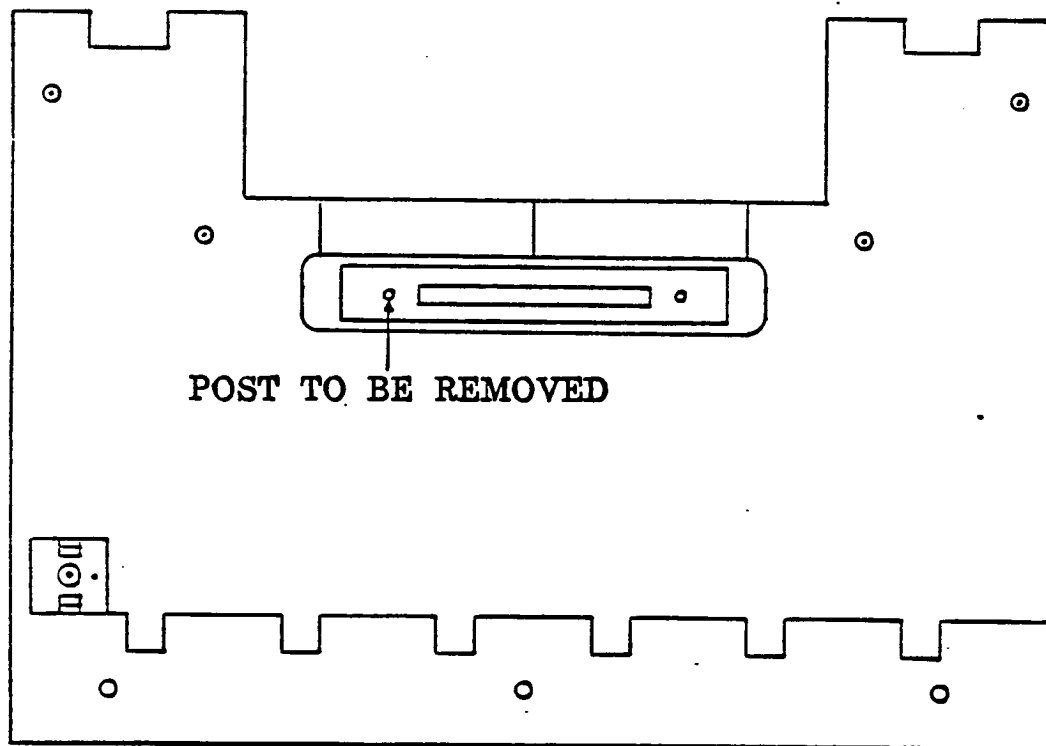

Figure 5. Top Cover Pin Removal
- 9. Using needle-nosed pliers, grasp the pin indicated in Figure 5, and twist it off.